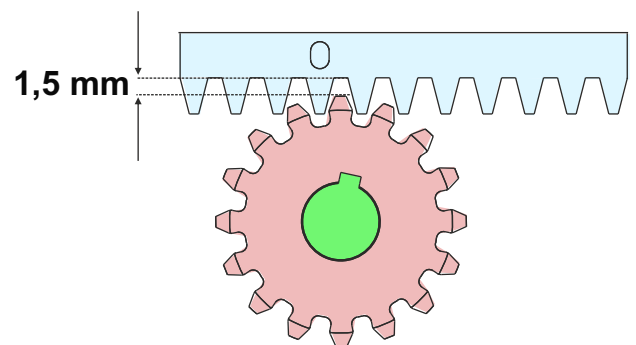

Fig. 10
- 6.6. To avoid that the gate weights down the pinion - Fig.10 - lift up the whole rack of about 1,5 mm. **CAUTION! KEEP A GAP OF ABOUT 0,5 mm BETWEEN THE PINION TOOTH AND THE GEAR RACK TOOTH;**